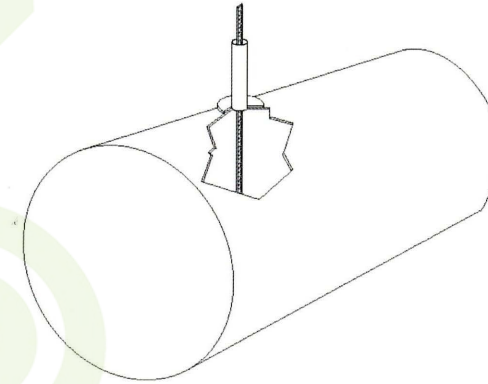

Figure 6: Measuring tank
2. Measure the distance from the bottom of the tank to the top of the 4" riser pipe as shown in Figure 6. Confirm the installed length of the pump maintains adequate clearance from the pump inlet to the bottom of the tank (see Figure 2).